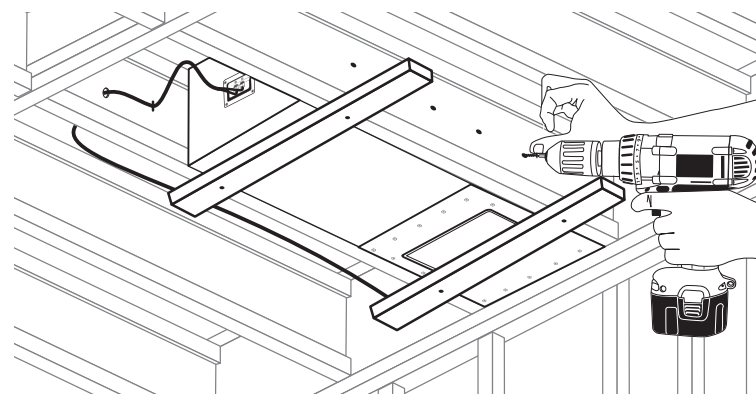

Figure 3
- Using wood screws, secure the subwoofer to the floor joists or trusses as shown in figure 3.